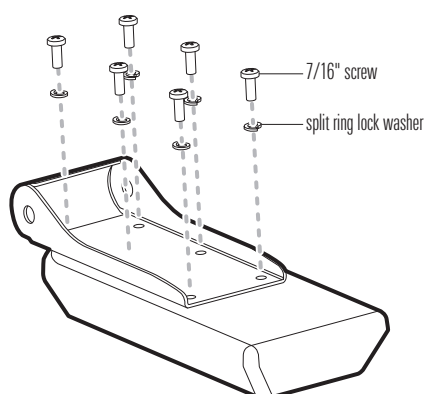

Figure 7
2. Use a Phillips-head screwdriver to install a 7/16" (11 mm) screw and #8 split ring lock washer into each bracket hole. Hand tighten each screw until each split ring lock washer flattens. **Hand tighten only.** (Figure 7)